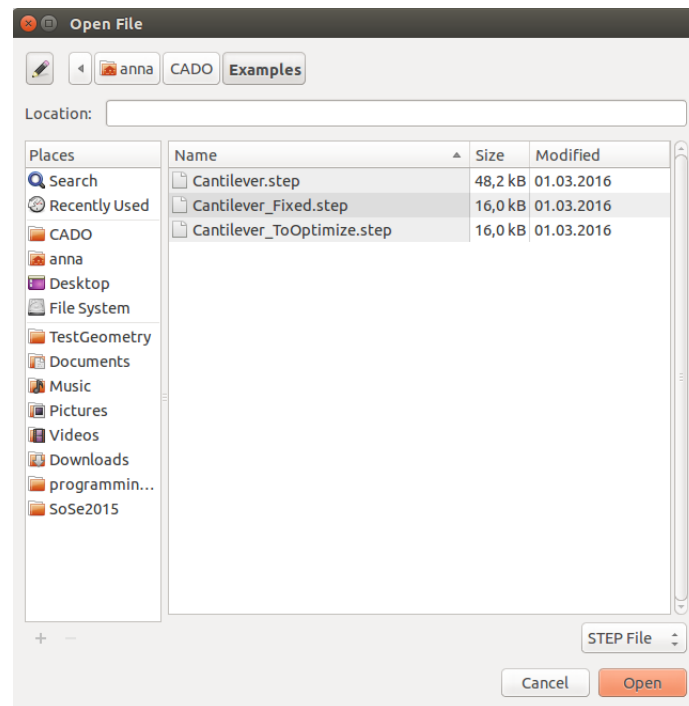

Figure 2: File dialog
- Choose the appropriate file by navigating through the file system in the opened dialog (see fig. 2);
- Choose the output destination by navigating through the appeared file dialog (see fig. 2);